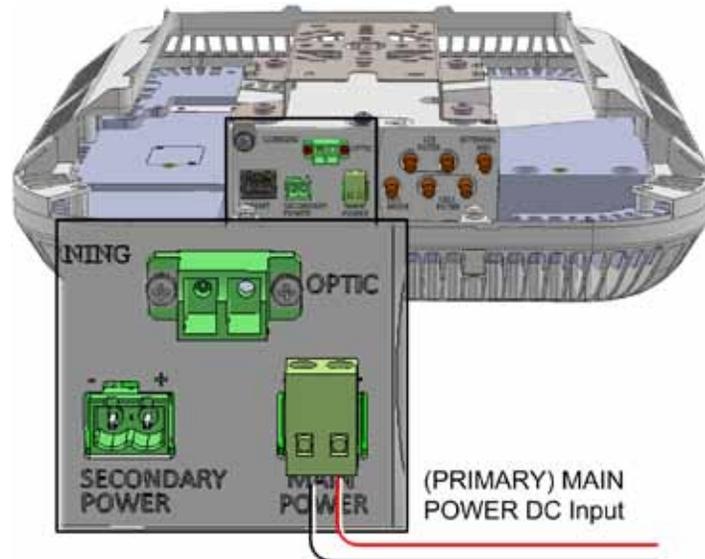

Figure 5-68. RAU MAIN POWER DC Input Connection
10. RAU **MAIN POWER** (for RAU/RAU+RxU) DC input power connections (see Figure 5-68) – connect DC wire pair to the terminal block connector: